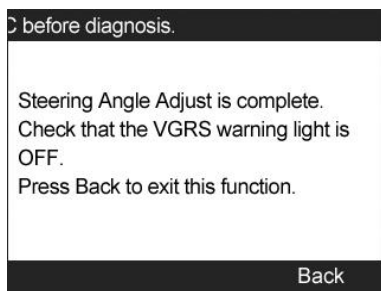

Figure 10.12
- 2) The tool will display a series of instructions. Follow the onscreen instructions step by step until the operation is completely finished. If the operation is finished successfully, the scan tool will display a confirmation message. (Figure 10.12) Otherwise, it will display a message to remind user of a problem. After you exit the diagnosis program, please repair the problem immediately.